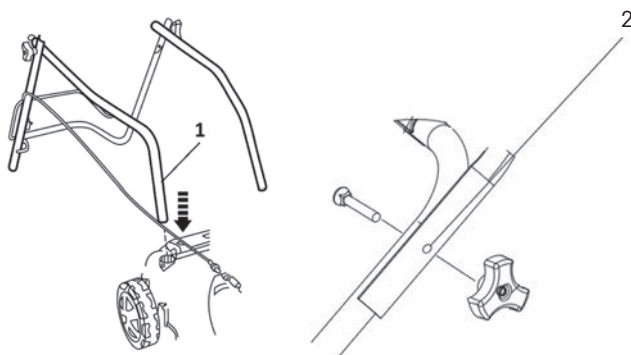

Fig. 2
1. Insert the bottom part of the handle (Fig. 2 – point 1) into the respective hole on the lawnmower (see arrow) and secure in place with the 2 included screws – one screw with a washer on each side of the handle.
2. Attach the top part of the handle to the bottom part of the handle using the included screws with wing nuts (Fig. 2 – point 2).